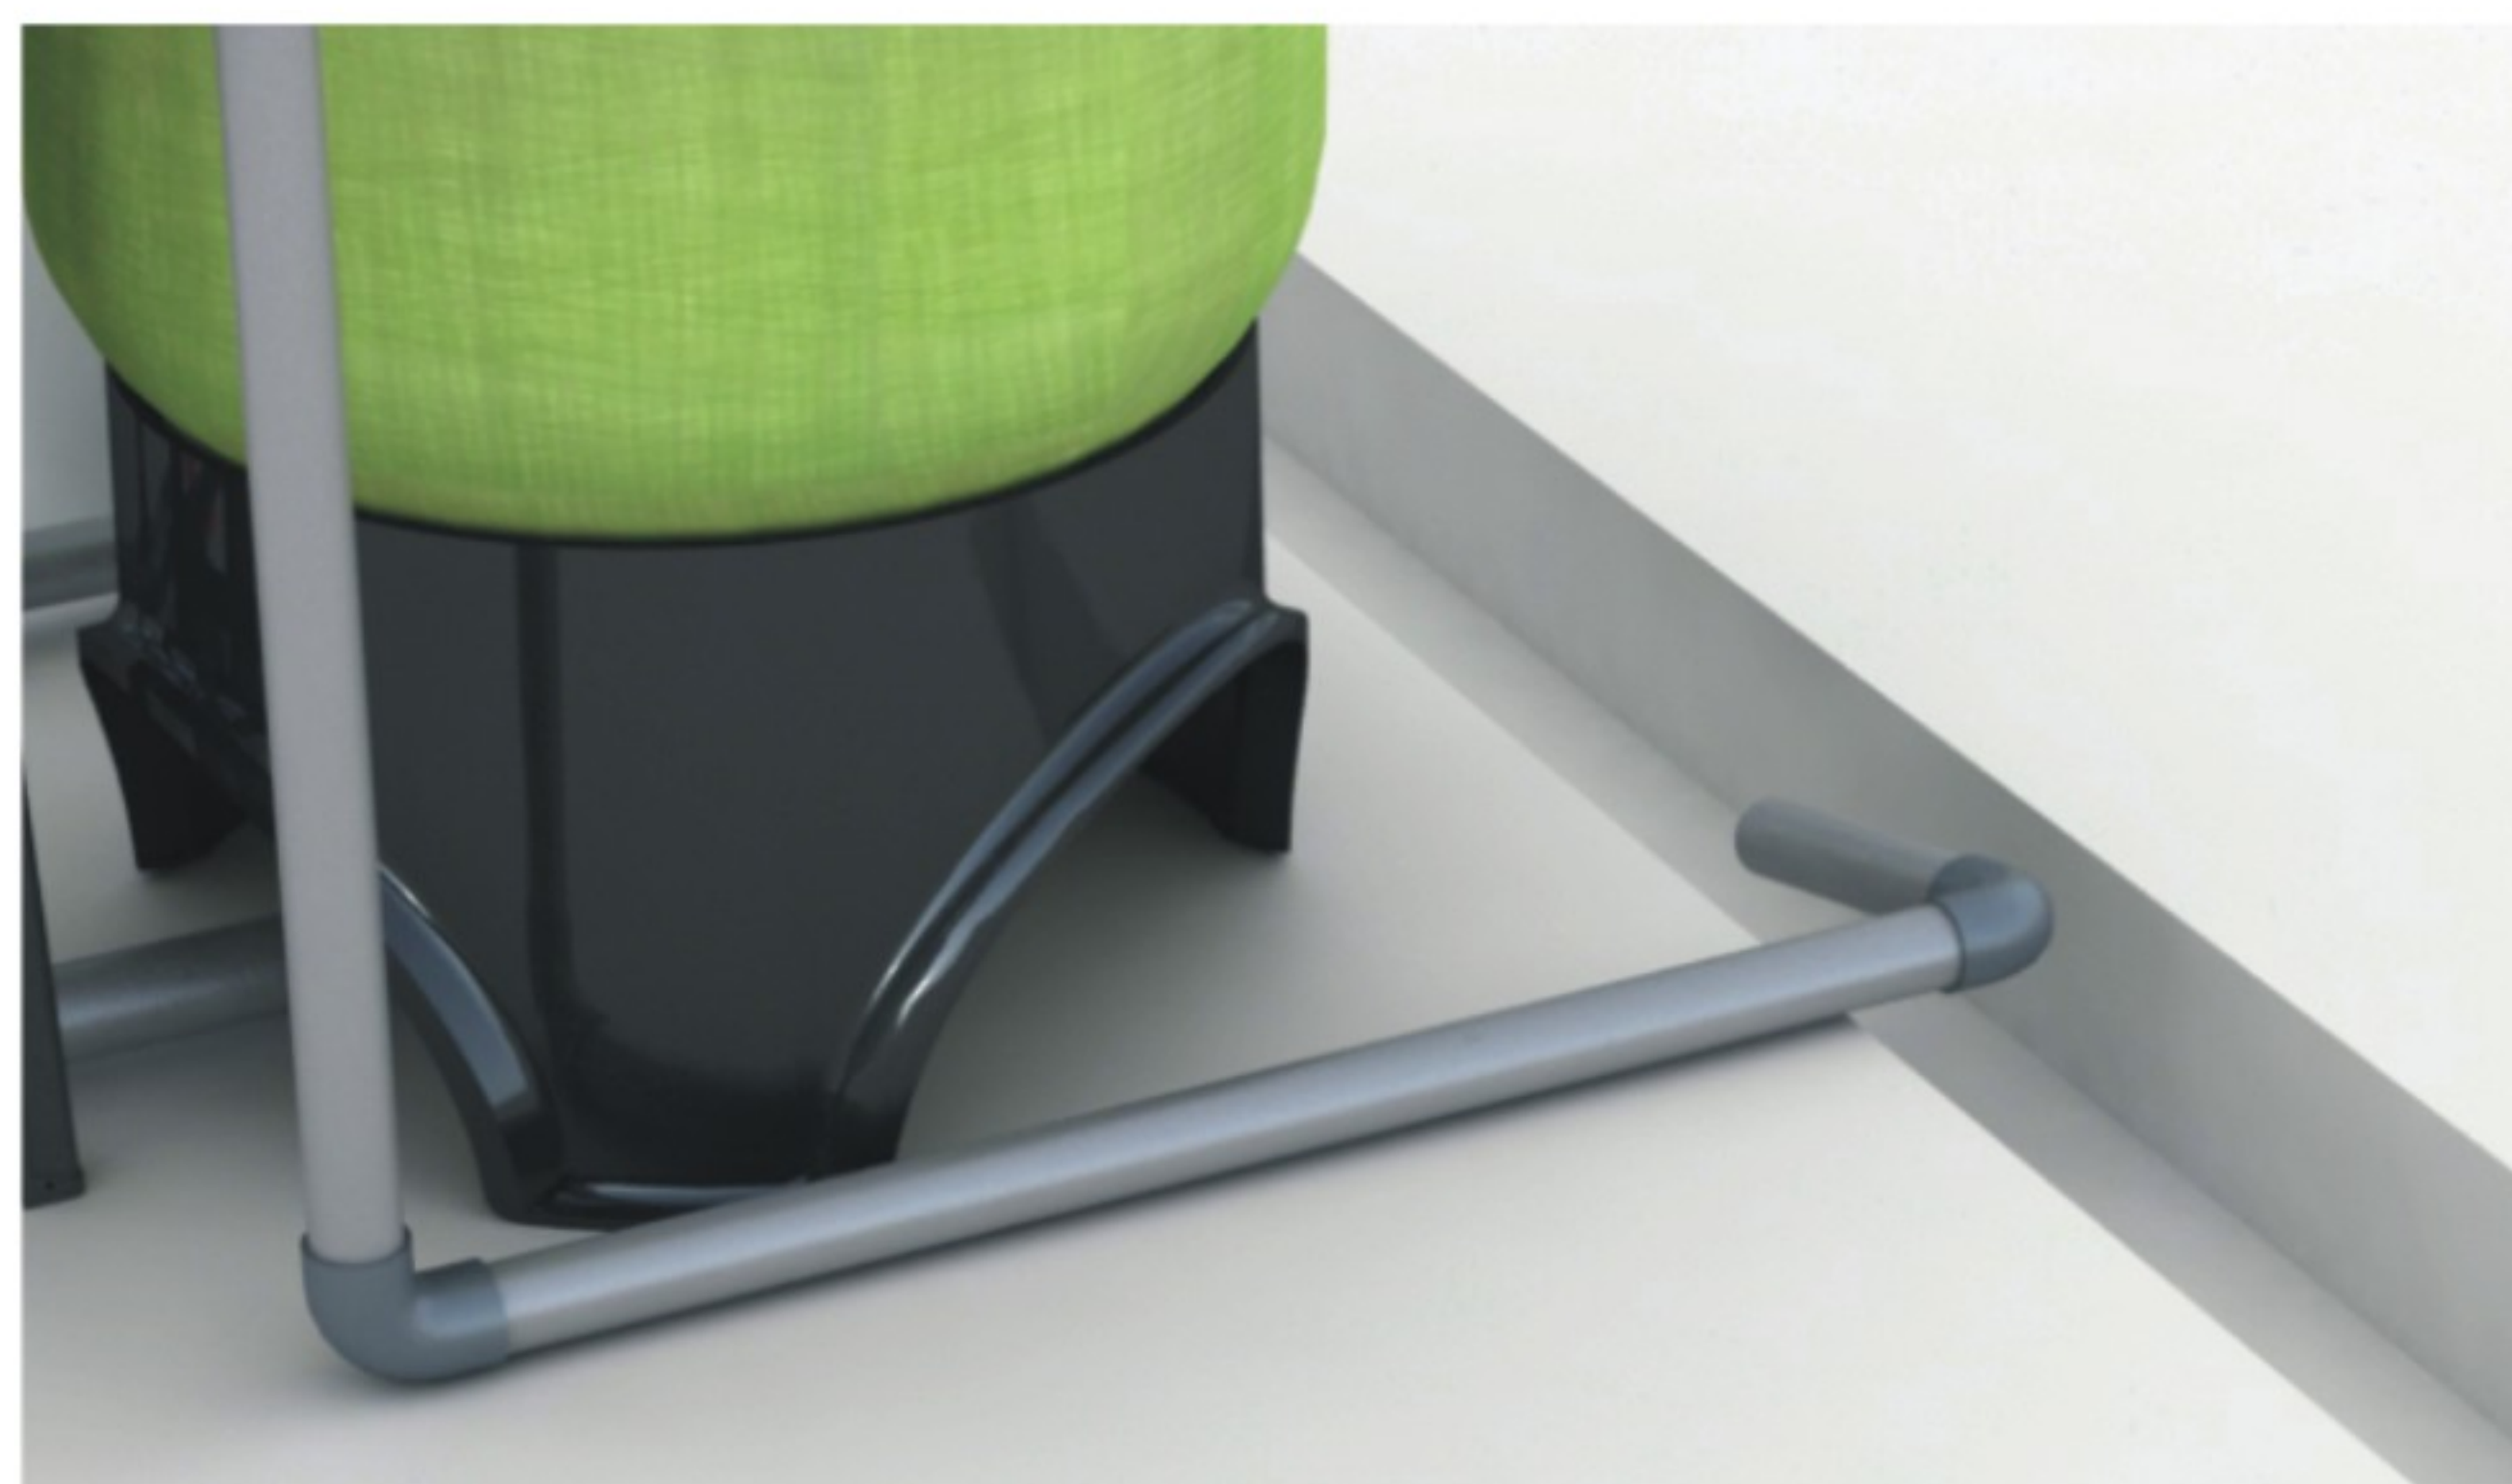

Figure 1-5
- e. Use DN65 (Outer diameter is  $\phi 75$ ) UPVC pipeline stick to the drain, drain pipeline should directly to the sewer, the sewer and the drain pipeline should installed as Figure 1-5.